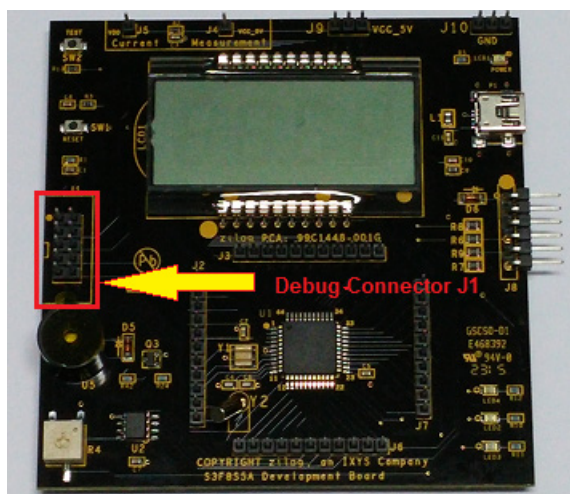

Figure 4. Debug Connector J1
3. Connect the other end of the ribbon cable to Debug Connector J1 on the Development Board, shown in Figure 4.